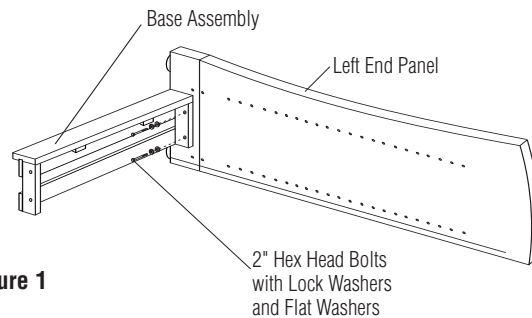

Figure 1
2. Align the side holes in the base assembly with the lower holes in the left end panel. Insert 2" hex head bolts with lock washers and flat washers into the base and end panel. Tighten (Figure 1).